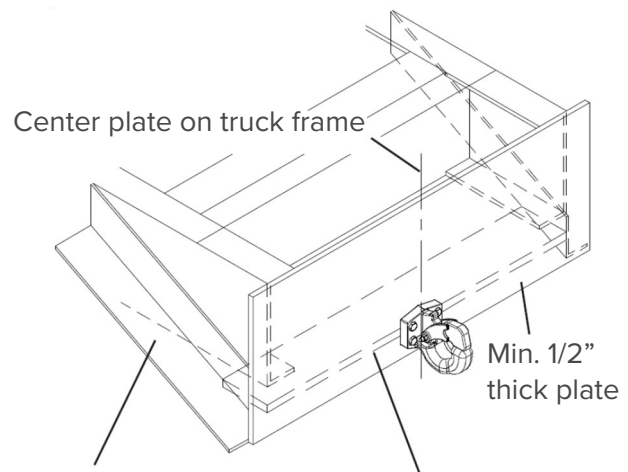

Figure 11
7. If the pintle hook and plate extend below the truck frame, add 4" x 4" x 1/2" or larger angle gussets (Figure 11).
8. Weld the 3/4" x 5" reinforcement bar in a horizontal position as shown in Figure 11 to the Rear Plate using 3/8" fillet with 3" skip welds, 6" on center, top and bottom.